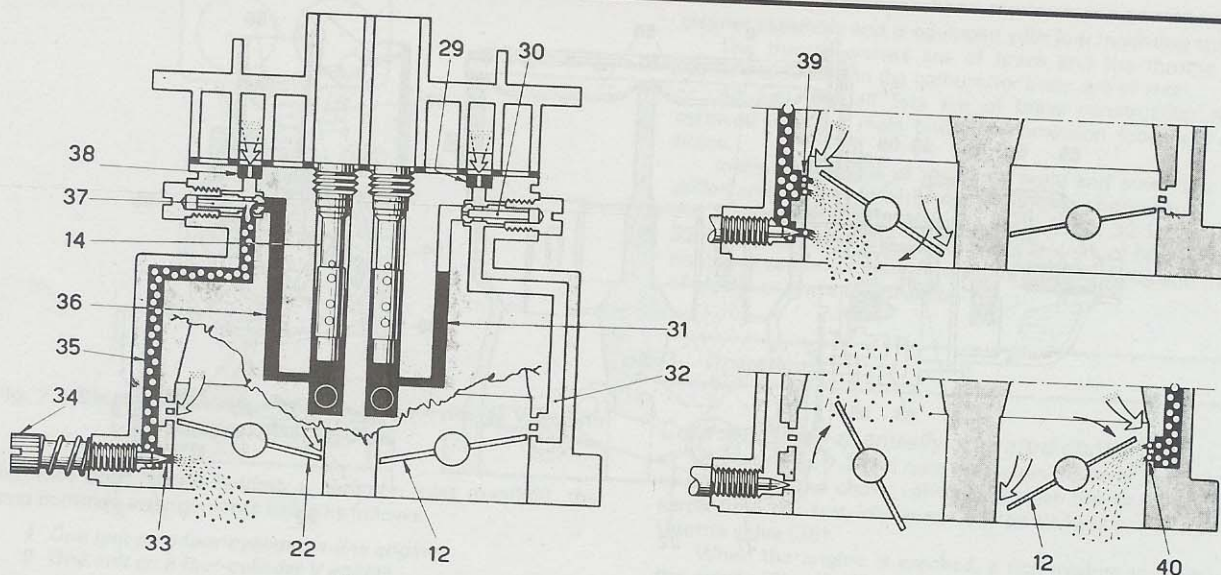

Fig. 7.4 Carburettor idling and progression phase (Sec 3)
Refer to Fig. 7.4 and note that when the engine is idling both throttle valves (12 and 22) are shut. Fuel is drawn from the
When the primary throttle valve is opened slightly to increase the engine speed, the progression holes (Fig. 7.4) (39) are brought into action to provide extra fuel.